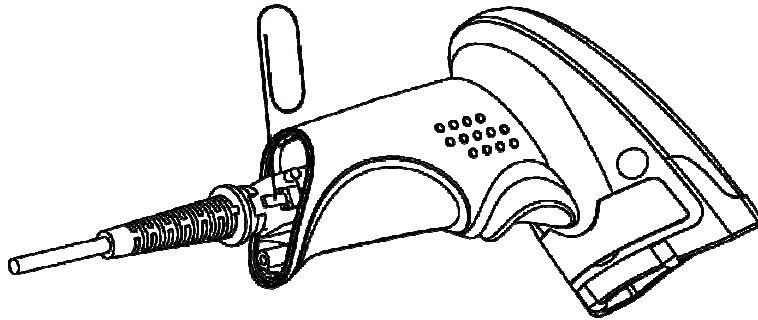

Fig. 1-5
2. Insert the needle into the disassemble hole (Fig. 1-5).